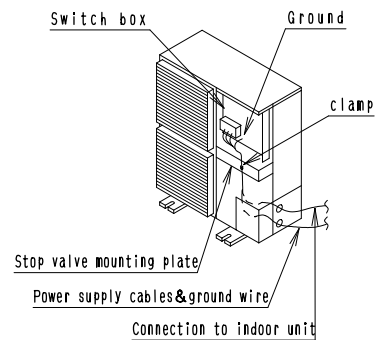

Fig. 7
- Fix cables as shown in Fig. 7 so that cables do not make contact with the pipes (especially on high pressure side.)